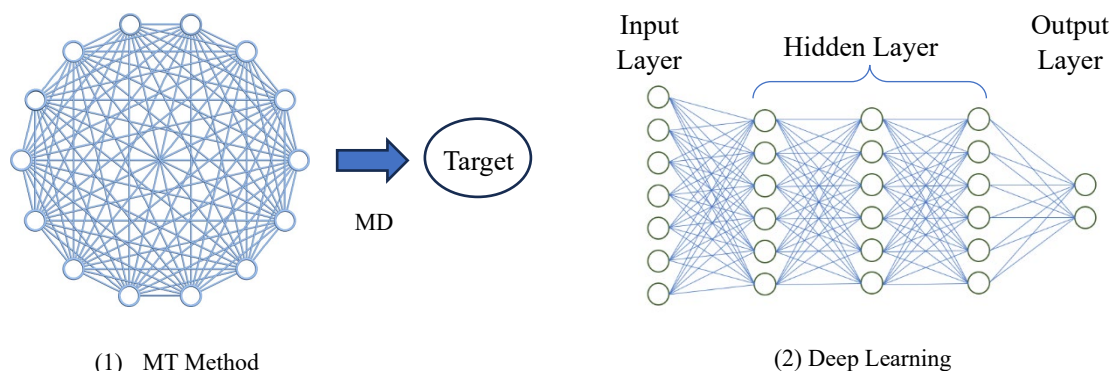

Figure 3. Structure of MT method and Deep Learning
The MT method has the network structure shown in Figure 3(1). The circles indicate the item (14 in this case) and the line indicates the correlation between the items. We call it the "ball of correlation". Only normal data are learned on the ball in the MT method. From the center of the ball, Mahalanobis distance (MD) to the object or target is calculated. And if the distance is far (more than 4), it means that the object is different from the normal pattern. Since patterns that have not been learned as normal patterns are judged as abnormal, the MT method can also detect "unknown abnormalities" that have never been learned before.
Deep Learning has a structure consisting of an input layer, a hidden layer, and an output layer as shown in Figure 3(2), where the circles indicate brain neurons in humans and the lines indicate the strength of the connections between the neurons. The number of circles in the input layer is the number of items. The input and output layers are given known data, called "teaching data," and the strength of the connections is determined through over thousands of iterations.